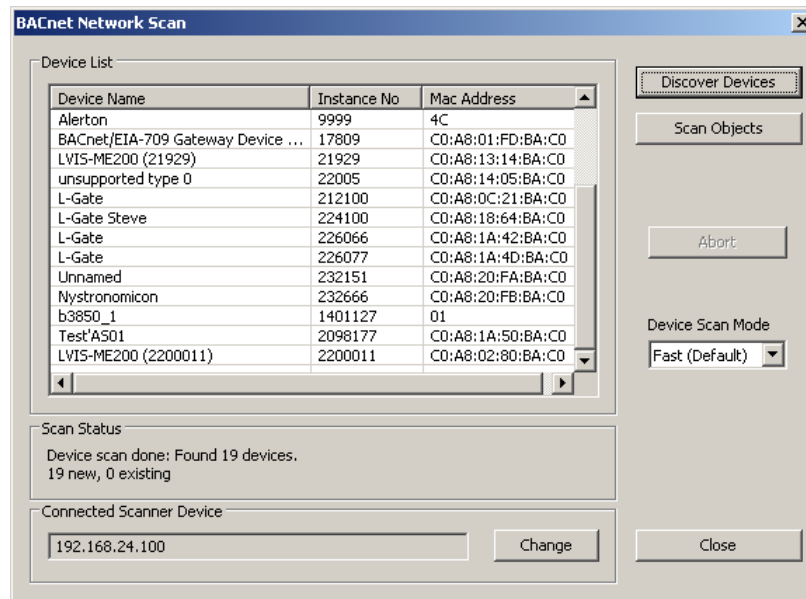

Figure 107: BACnet network scan dialog.
3. Right-click on that folder and select **Scan BACnet Network...**. This opens the BACnet Network Scan dialog as shown in Figure 107.